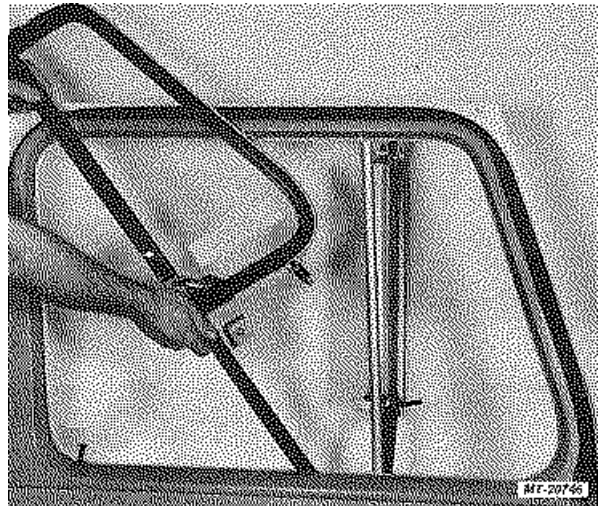

Fig. 17 Removing or Installing Door Vent Glass and Front Run Channel
The door vent glass and front run channel (Fig. 17) is serviced as one assembly. It is held in place in door by two pan head screws and two hex head bolts.
4. Lift out vent glass and front run channel as an assembly through window frame (Fig. 17).